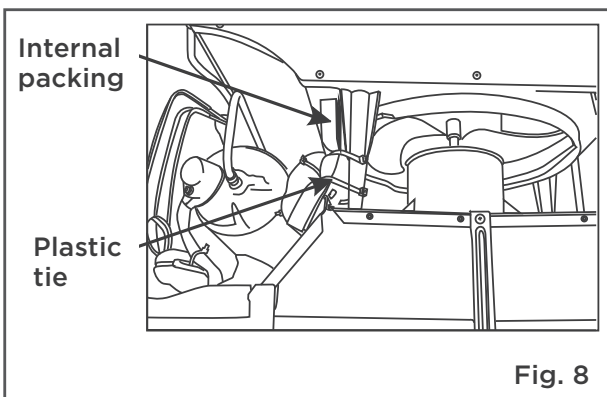

Fig. 8
9. Your unit may come with internal packaging. This packaging must be removed prior to installing the air conditioner back into the cabinet. (see Fig. 8).